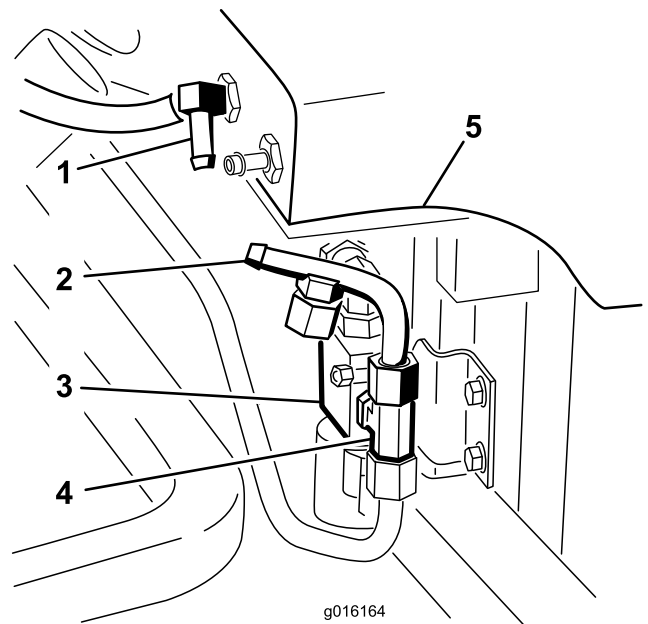

Figure 24
3. Install hydraulic line number 4 to the tee fitting assembled to the side of the valve (Figure 24).